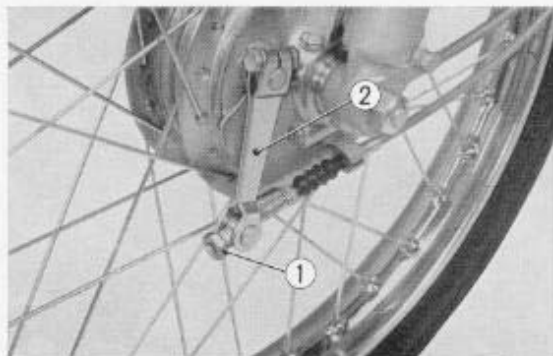

Fig. 4.2 Removing brake adjusting nut
1. Hold the front brake arm ② back and unscrew the adjusting nut. ① (Fig. 4.2)